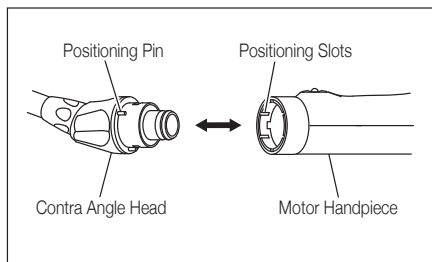

Fig. 7
- When removing the contra angle head, pull it straight out. (Fig. 7)